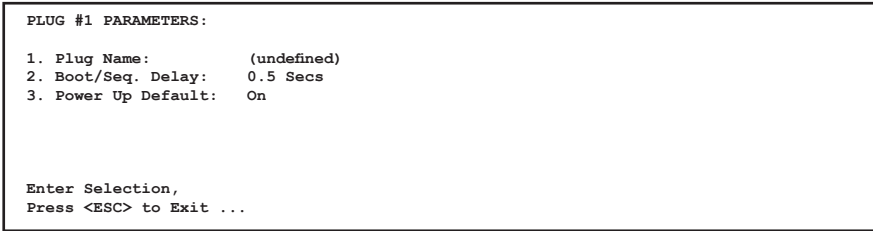

Figure 5.18: Plug Parameters Menu - Text Interface (Plug 1 Shown)
- **Text Interface:** Type `/PL n` and then press **[Enter]** (Where `n` is the number or name of the plug you wish to configure.) The Plug Parameters Menu will be displayed as shown in Figure 5.18.